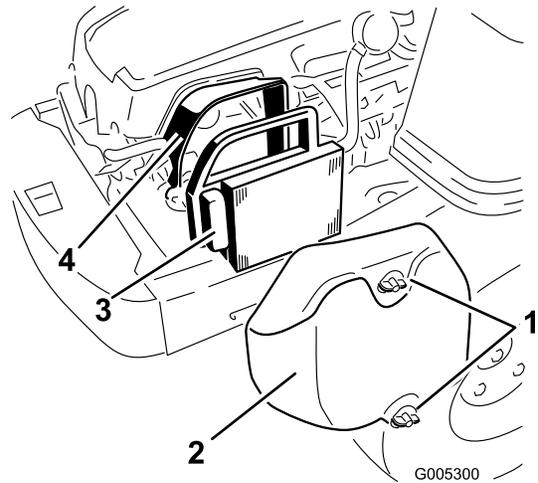

Figure 26
1. Remove the air cleaner cover (Figure 26).
2. Remove the air cleaner element with the integral rubber seal (Figure 26).
5. Install the air cleaner element with the pleated side “out” and seat the rubber seal onto the edges of the air cleaner base (Figure 26).
6. Reinstall the air cleaner cover and secure with the two knobs (Figure 26).